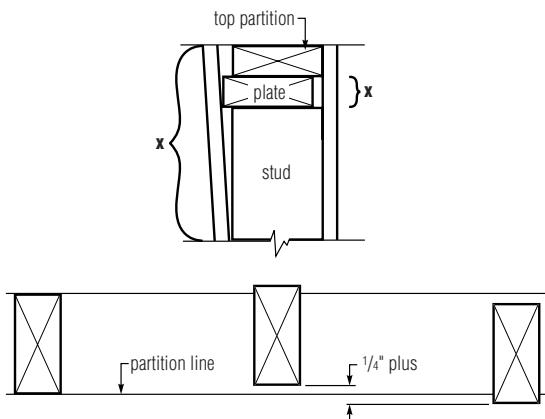

Fig. 10
- Cause:** Due to misaligned top plate and stud, hammering at points “X” (Fig. 10) as panels are applied on both sides of partition will most likely result in nail heads puncturing paper or cracking board. Framing members more than 1/4" out of alignment with adjacent members make it difficult to bring panels into firm contact with all nailing surfaces.